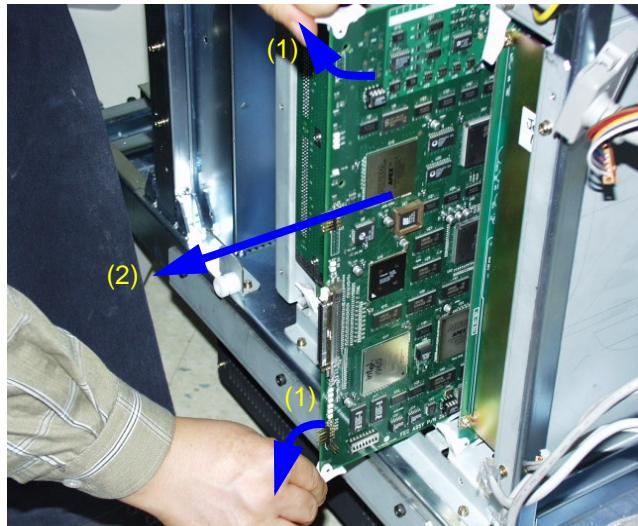

Figure 8-87 Taking Out the Board.
- 7.) Move the upper and lower stopper in the direction indicated by the arrow (1). Refer to Figure 8-87.